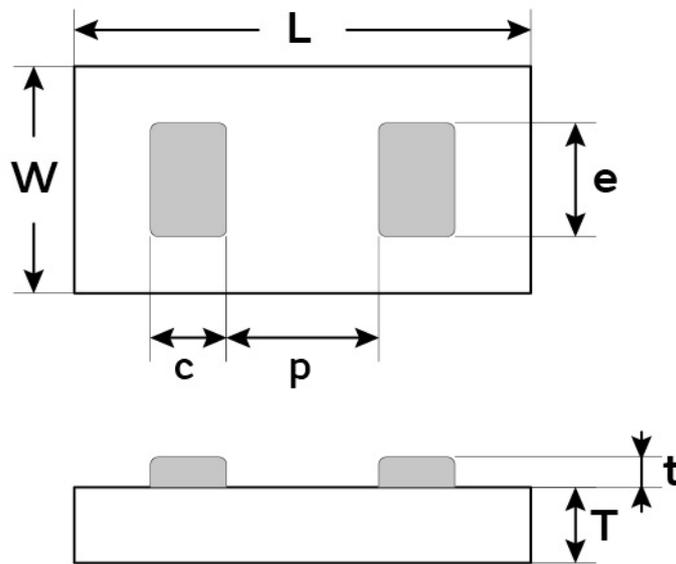

Figure 9 - Package outline drawing
- (1) Other Film Frame Carrier are possible on request
- (2) SAC = ENIG (0.1µm Au / 5µm Ni) + SAC305 type 6      or      ENIG 0.1µm Au / 5µm Ni
- (3) Missing capacitors can reach 0.5%
- (4) Refer to Figure 9
- (5) Dedicated for Pre-Production
- (6) For all demands including Mass Production